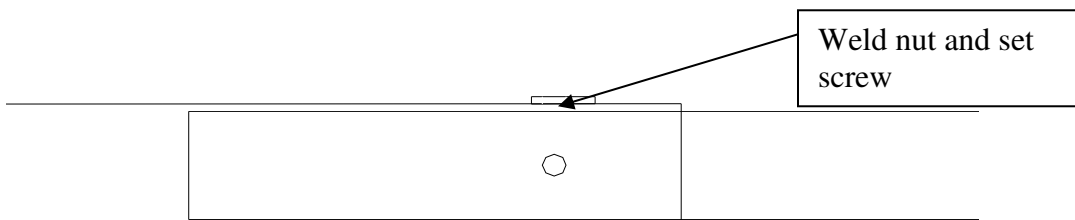

Figure 5. Close up of mating between inner and outer tubes, showing weld nut.
- 8) To temporarily retain the extension tubes at the proper length, tighten the setscrews provided in the welded on T-nut, (see Figure 5). At this time, the board should also be squared and leveled.